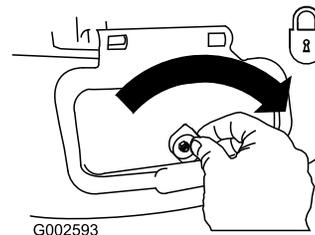

Figure 34
**Important:** Lock the side discharge door after you close it (Figure 34).